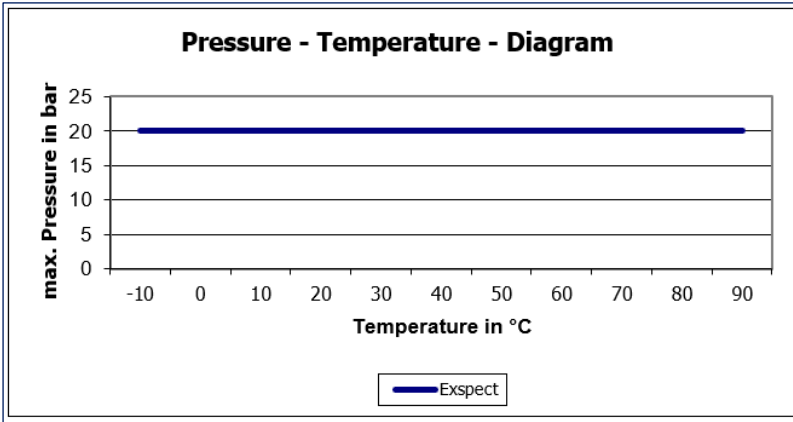

Fig. 2: EXspect pressure-temperature diagram
- 4. Weld the parts between the 4 points (Fig. 2 below)